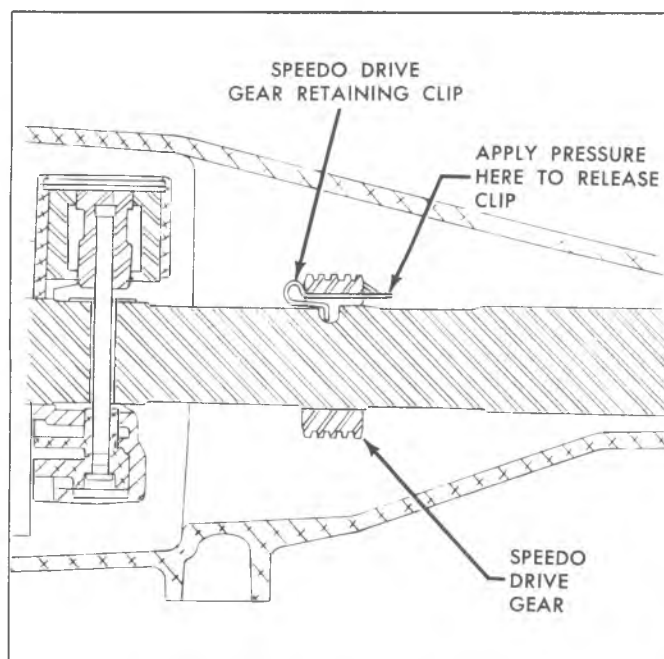

Fig. 3PG--Removing Speedometer Drive Gear
5. Remove the speedometer drive gear from output shaft as shown on Figure 3PG.